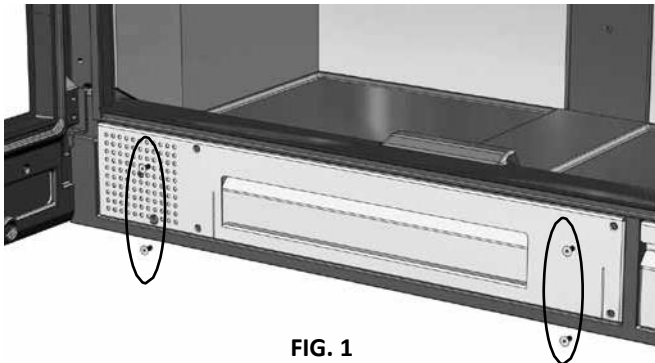

FIG. 1
1. Remove the four screws holding the front of the fan support tray (Fig.1).